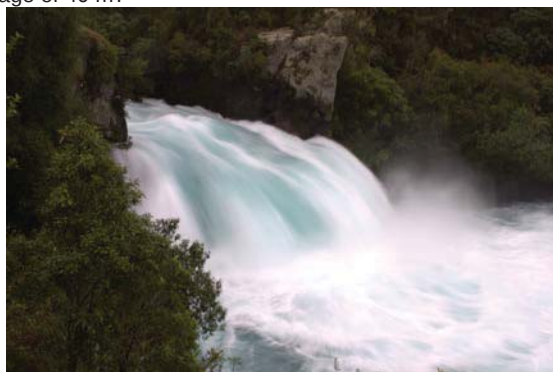

Figure 12.29 The Huka Falls in Taupo, New Zealand, demonstrate flow rate. (credit: RaviGogna, Flickr)
5. The Huka Falls on the Waikato River is one of New Zealand's most visited natural tourist attractions (see **Figure 12.29**). On average the river has a flow rate of about 300,000 L/s. At the gorge, the river narrows to 20 m wide and averages 20 m deep. (a) What is the average speed of the river in the gorge? (b) What is the average speed of the water in the river downstream of the falls when it widens to 60 m and its depth increases to an average of 40 m?